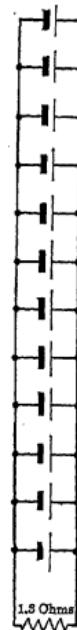

FIG. 124.
(6) Twelve cells in parallel: Fig. 124.